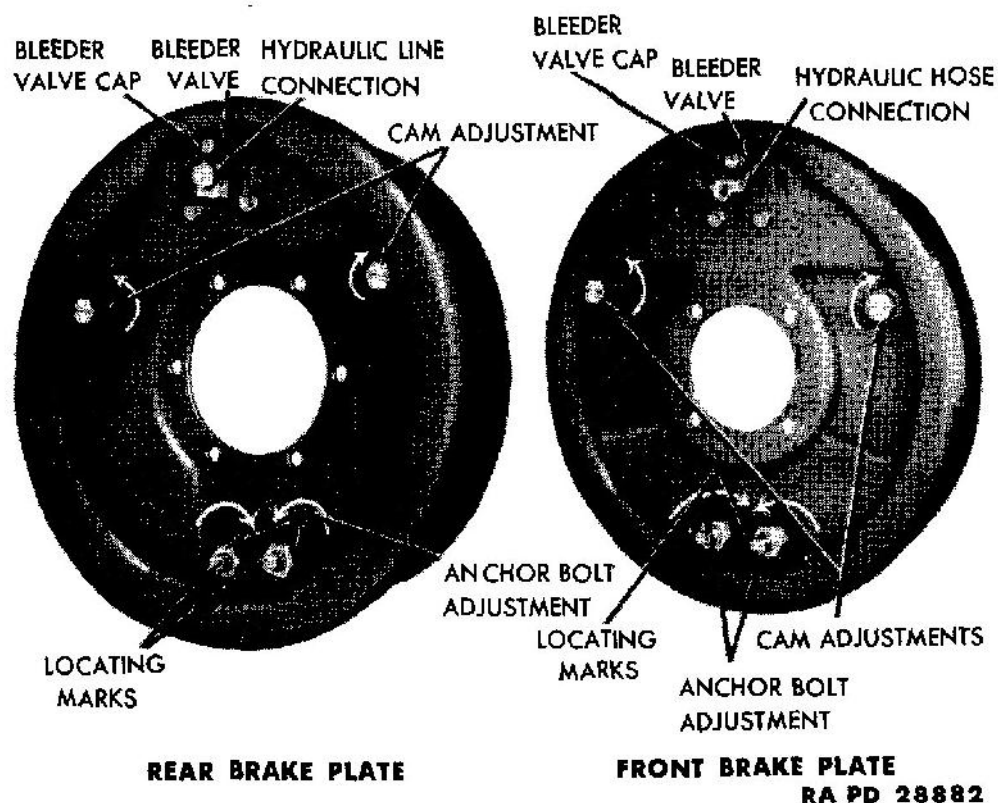
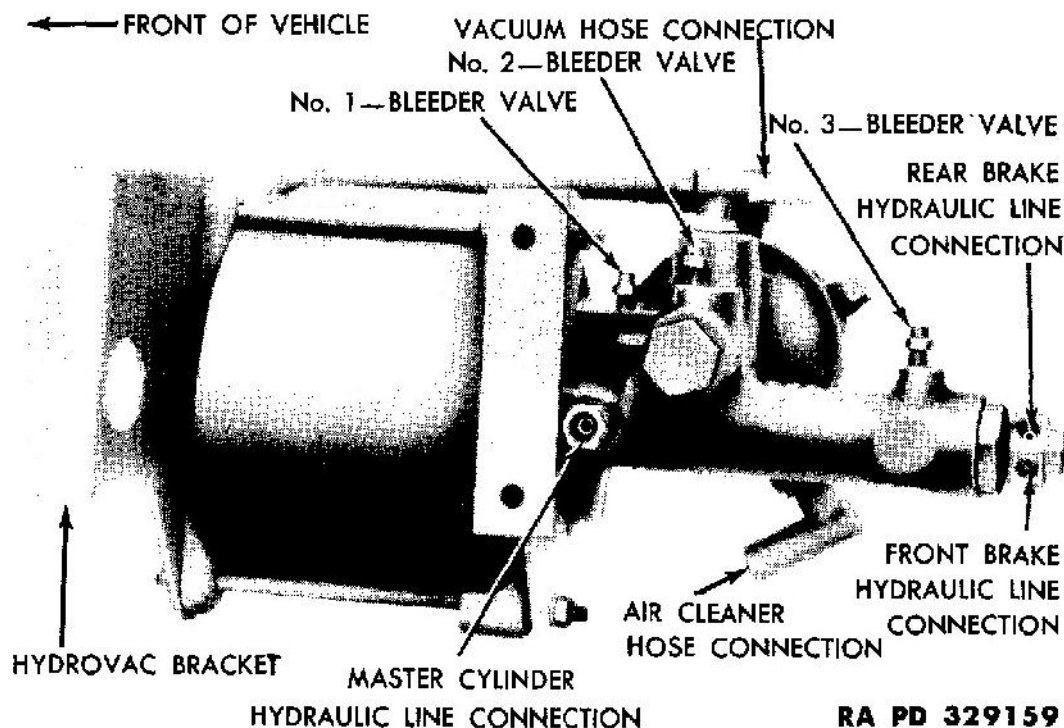
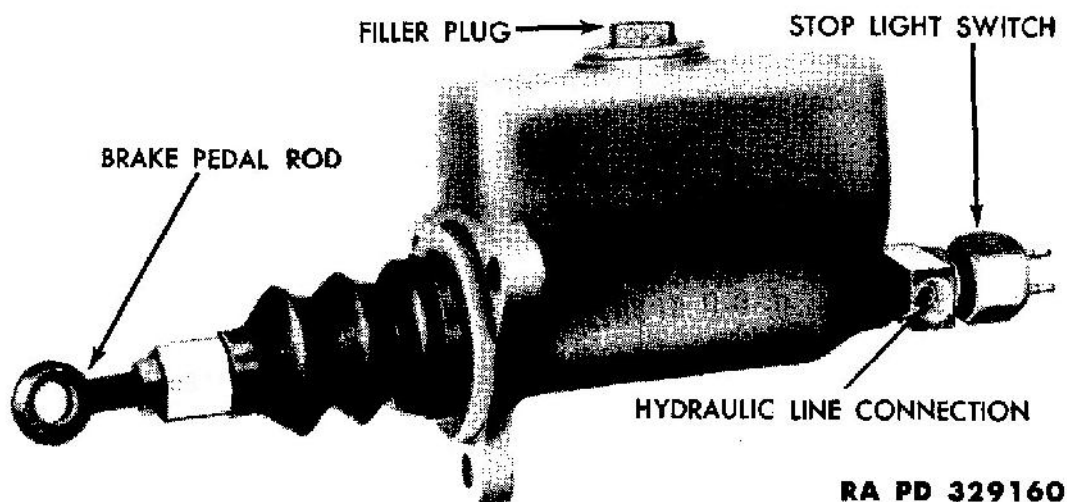

Figure 74 — Front and Rear Brake Plates
Figure 76 — Hydrovac
Figure 78 – Master Cylinder
(1) **PEDAL FREE PLAY ADJUSTMENT** (fig. 78). The brake pedal must have 1/4-inch free movement, measured at the pedal pad, before the brake pedal rod contacts the master cylinder piston. Remove the clevis pin from the brake pedal clevis to disconnect the rod at the master cylinder. Loosen the lock nut on the rod and turn the rod until 1/4-inch play is obtained at the pedal pad. Install the clevis pin in the brake pedal clevis and rod to the master cylinder. Tighten the lock nut on the rod to the master cylinder.
(2) **SHOE ADJUSTMENT** (fig. 74). Do not attempt to adjust the brakes while the drums are hot. Jack up all four wheels. Adjust the pedal free play as outlined in subparagraph (1) above if required. Loosen the lock nut on each anchor bolt. With from 20- to 35-pounds pressure being applied to the brake pedal, turn one anchor bolt in the direction shown by the arrows in figure 74 until the brake shoe contacts the drum. Remove the pressure from the brake pedal and back off the anchor bolt slightly, until the wheel turns freely. Tighten the
lock nut on the anchor bolt, holding the bolt while the lock nut is being tightened to prevent any change in the setting. Repeat this operation at each anchor bolt, applying pressure to the pedal during the adjustment of each and removing the pressure when backing the adjustment off. Lock each anchor bolt as soon as its adjustment is established. Turn one of the cams in the direction indicated by the arrows in figure 74 until the shoe comes in contact with the drum, then back off the adjustment until the wheel rotates freely in either direction. Repeat the above procedure at both cams on each wheel.
anchor bolts. Push the anchor bolts through the anchor bolt holes in the brake plate until the eccentric washers are against the brake shoes. Turn each anchor bolt until the eccentric washer enters the hole in each brake shoe. Install the lock washers and nuts loosely on the anchor bolts. Turn the anchor bolts so that the punch marks face toward each other as shown in figure 74. Install the wheel and drum assembly (par. 127 a (2)). Adjust the brake shoes (subpar. b above).
a. **Description** (fig. 76). The hydrovac is a power cylinder located on the inside of the frame left side member at the rear of the cab. This power cylinder uses the vacuum of the engine to step up or amplify the pressure manually applied to the brake pedal. This reduces the manual effort required to apply the brakes.
b. **Removal** (fig. 76). Loosen the clamp on the hydrovac air cleaner hose connection and remove the hose from the hydrovac. Loosen the clamp on the hydrovac vacuum hose connection and remove the hose from the hydrovac. Disconnect the front and rear brake hydraulic lines, and the brake master cylinder hydraulic line, from the hydrovac. Remove the four nuts, lock washers and bolts that secure the hydrovac bracket to the frame. Remove the hydrovac and bracket assembly.
a. Description (fig. 78). The master cylinder is located on the left side of the frame cross member to the rear of the transmission.
b. **Removal** (fig. 78). Remove the brake pedal return spring from the brake pedal clevis pin. Remove the brake pedal clevis pin from the brake pedal. Disconnect the stop light switch wires at the bullet connections on the stop light switch. Disconnect the hydraulic brake line from the master cylinder. Remove the three nuts, lock washers and bolts that secure the master cylinder to the cross member bracket, and remove the master cylinder.
c. **Installation**. Place the brake master cylinder in position on the cross member bracket and secure it to the bracket with the three bolts, lock washers and nuts. Connect the hydraulic brake line to the master cylinder. Connect the stop light switch wires to the stop light switch at the bullet connections. Line up the brake pedal rod in the master cylinder with the brake pedal clevis and install the clevis pin. Adjust the pedal rod to obtain ¼-inch free travel of the brake pedal (par. 131 b (1)). Secure the clevis pin with a cotter pin. Connect the brake pedal return spring to the clevis pin. Bleed the hydraulic system (par. 136).
a. Bleed the Hydrovac (fig. 76). Remove the filler plug from the master cylinder reservoir (fig. 78) and fill the cylinder with hydraulic fluid. The hydrovac unit must be bled at the three bleeder valves in the order shown by the numerals in figure 76. Remove the first hydrovac bleeder valve dust cap (fig. 76 No. 1) and attach a bleeder tube to the bleeder valve. Place the end of the bleeder tube in a clear glass jar containing some hydraulic fluid. Open the bleeder valve about $\frac{3}{4}$ of a turn. Pump the brake pedal slowly, some fluid or air will come out with each stroke. *NOTE: Keep the master cylinder filled with brake fluid while pumping the brake pedal.* Continue to pump the pedal until no more bubbles come out of the bleeder tube. When, with each stroke, only fluid comes out of the bleeder tube, close the bleeder valve. Refill the master cylinder (fig. 76) and repeat the above operation on the other two hydrovac bleeder valves.
b. **Bleed the Wheel Slave Cylinders.** Remove the filler plug from the cylinder reservoir (fig. 78) and fill the cylinder with hydraulic fluid. Remove the wheel slave cylinder bleeder valve dust cap (fig. 74) and attach a bleeder tube to the wheel slave cylinder bleeder valve. Place the end of the bleeder tube in a clear glass jar containing some hydraulic fluid. Open the bleeder valve about $\frac{3}{4}$ of a turn. Pump the brake pedal slowly, some fluid or air will come out with each stroke. **NOTE:** *Keep the master cylinder filled with brake fluid while pumping the brake pedal.* Continue to pump the pedal until no more bubbles come out of the bleeder tube. When, with each stroke, only fluid comes out of the bleeder tube, close the bleeder valve. Refill the master cylinder (fig. 78) and repeat the above operation on the three other wheel slave cylinders.